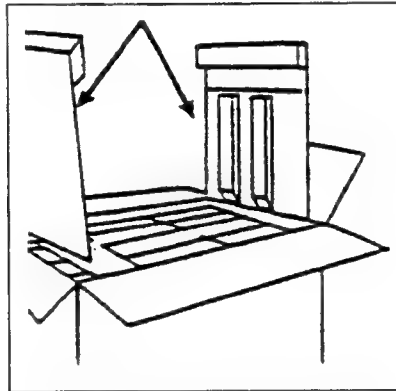

Figure 2-7. Remove Packing Material
- b. Remove the two cardboard and foam pieces from each end of the stacking aid (Figure 2-7).